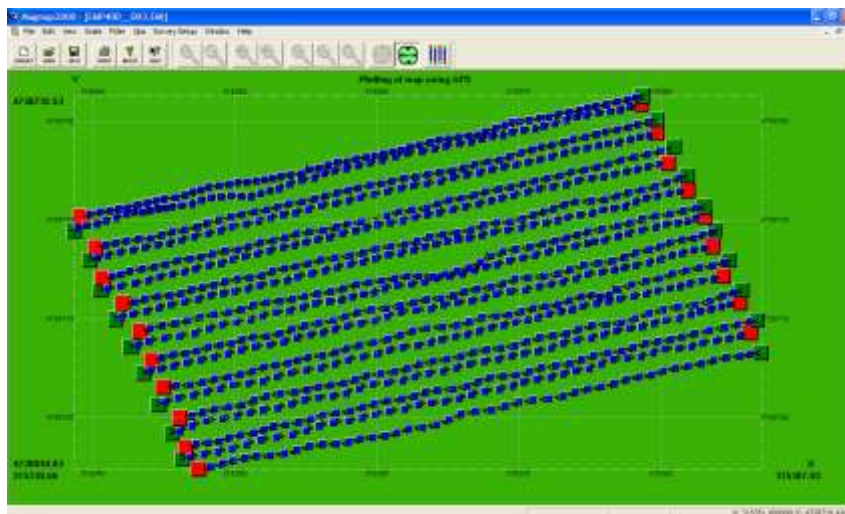

Figure 101: Decimal Degree data converted to UTM coordinates.
3. If you are satisfied with the UTM conversion settings, select **OK**. Figure 101 illustrates the data set converted to UTM coordinates.